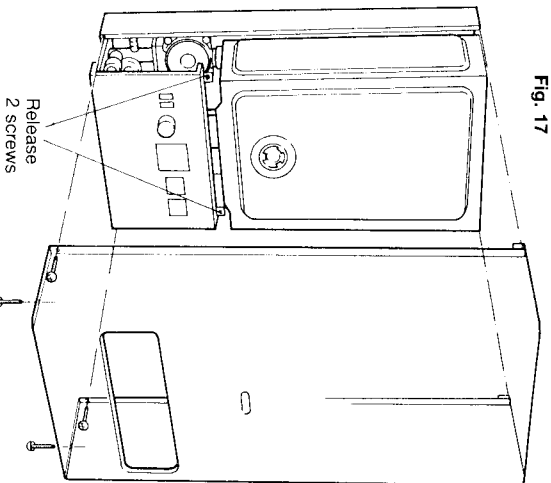
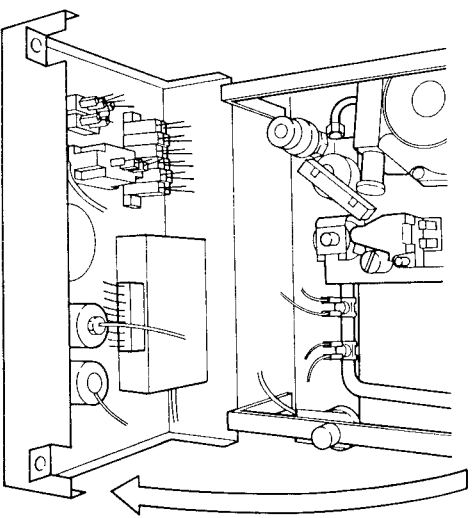

Fig. 17
Fig. 18
To remove components access to the interior is essential. Refer to figs 17 & 18
Release 4 retaining screws (fig 17).
8.4.2 To open control fascia release 2 screws (fig 17) at the top of the fascia and swing down (fig 18)